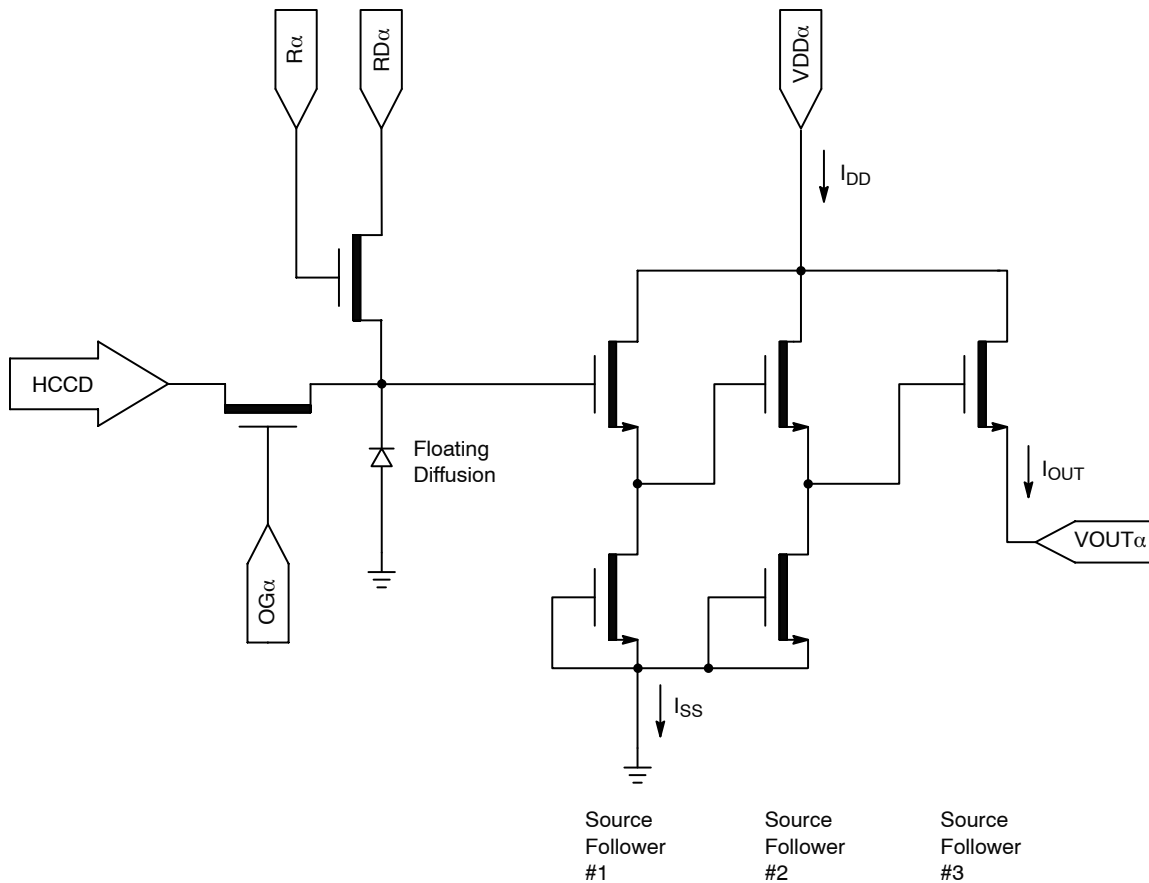

Figure 19. Output Amplifier
2. The maximum DC current is for one output.  $I_{DD} = I_{OUT} + I_{SS}$ . See Figure 19.